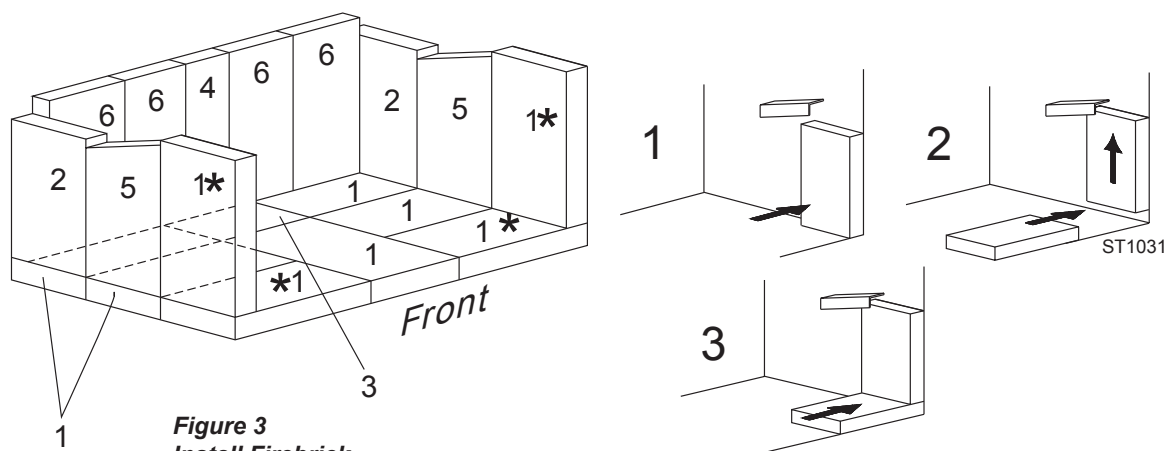

Figure 3
6. Install the refractory bricks. (Fig. 3)